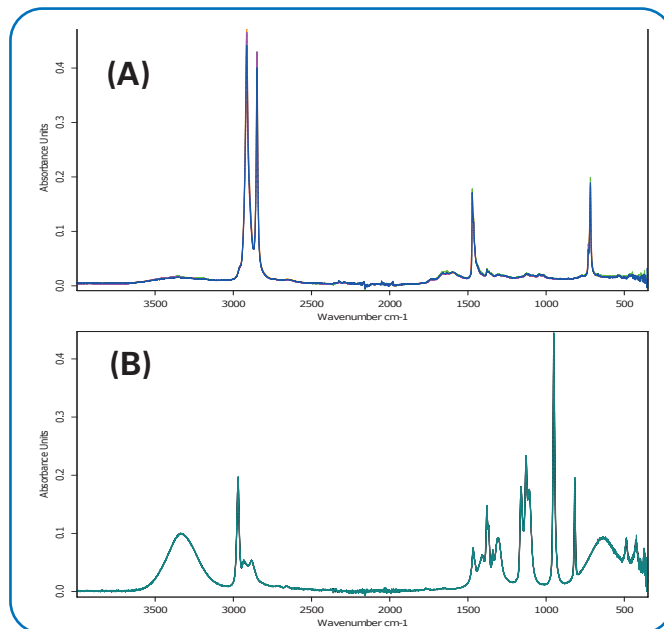

Figure 1: Although looking like a single spectrum, **A** (PE) and **B** (2-propanol) are comprised of 5 spectra recorded at 8 cm⁻¹, 4 cm⁻¹, 2 cm⁻¹, 1 cm⁻¹ and 0.5 cm⁻¹.
Figure 1 shows the spectra of solid polyethylene (PE) and liquid isopropanol. Spectra were collected with a resolution ranging from 8 cm⁻¹ to 0.5 cm⁻¹. The spectral resemblance between the respective resolutions is so close, that virtually no difference can be spotted.